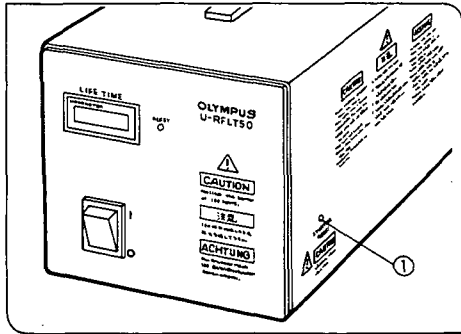

Fig. 14
- ★ Some mercury burners may not ignite the first time the power is turned ON. If the burner does not ignite, the power supply unit's starter safety device will activate and should be reset. Press the main switch to "O" (OFF) once. Then insert the tip of a mechanical pencil, etc. into the starter reset switch hole ① on the right hand side of the power supply unit and press the switch inside. Then press the main switch to "I" (ON) again. (Fig. 14)